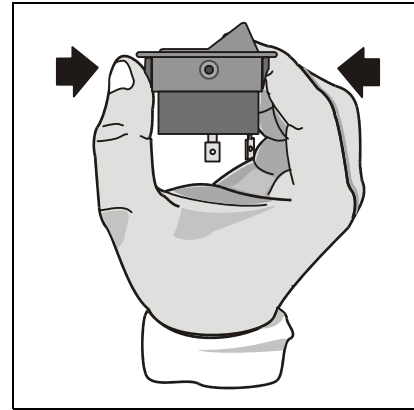

Figure 3-40: Option Rocker Switches
3. The accessory on/off rocker switches are held by plastic wings (or tabs). Compress the wings (or tabs) on one side at a time to release the switch body, then push it up and out of the slot (See Figure 3-40).